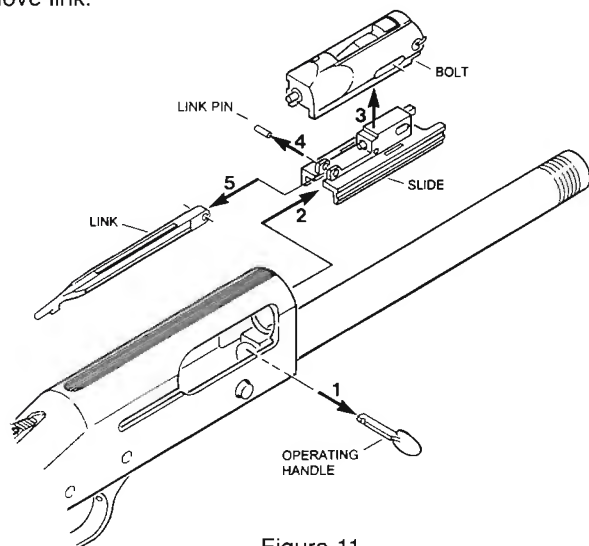

Figure 11
1. Pull the operating handle straight out of the bolt (Figure 11).
Clean all components of the action including the bolt, slide, and link (Figure 11) to remove accumulated residue. An evaporating solvent should be used. Action parts will remain cleaner longer if lubrication is used sparingly.